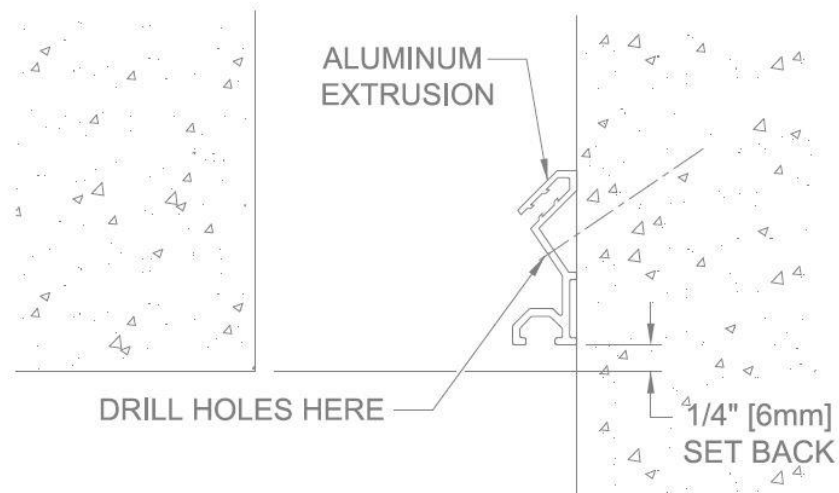

FIGURE 1
1. Position one of the frames onto the wall of the expansion joint and mark hole locations at 18" OC. (Reference shop drawings for more details) Drill $\text{Ø}3/16$ " holes into the extrusions at the marked locations. When attaching to a concrete wall, drill a hole into the concrete at these locations with a $\text{Ø}5/32$ " masonry bit. **See Figure 1**